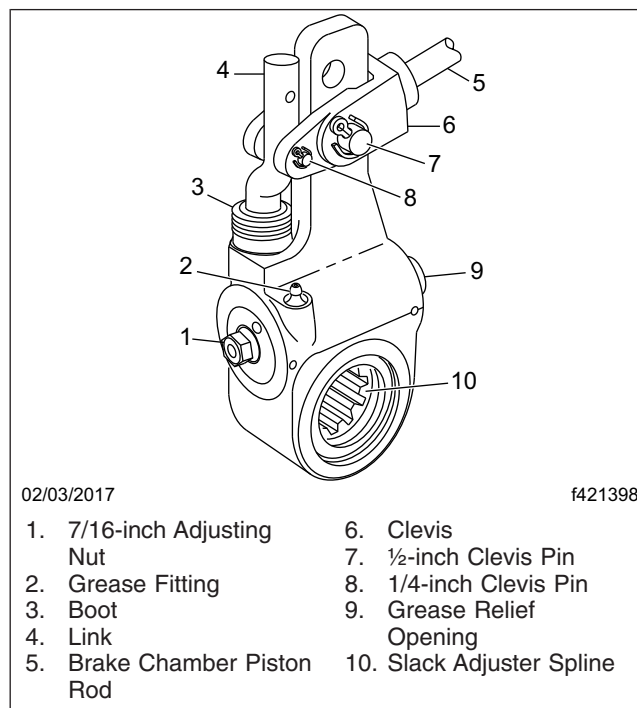
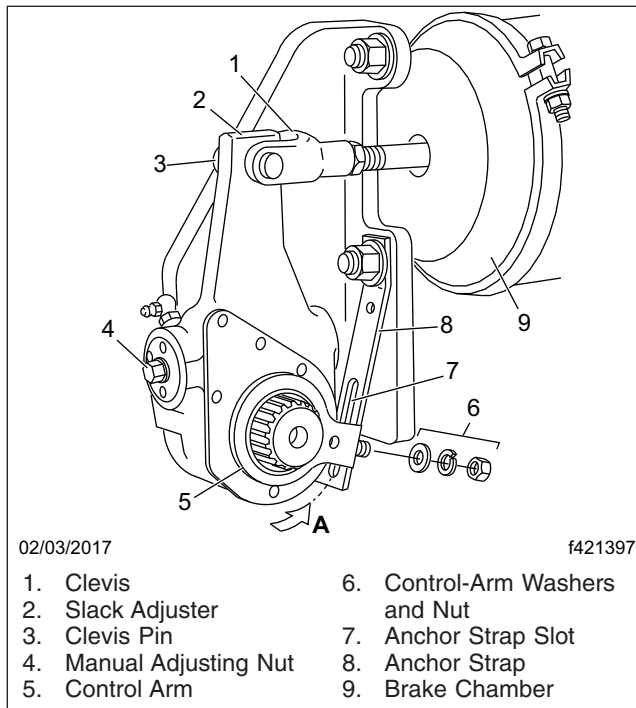
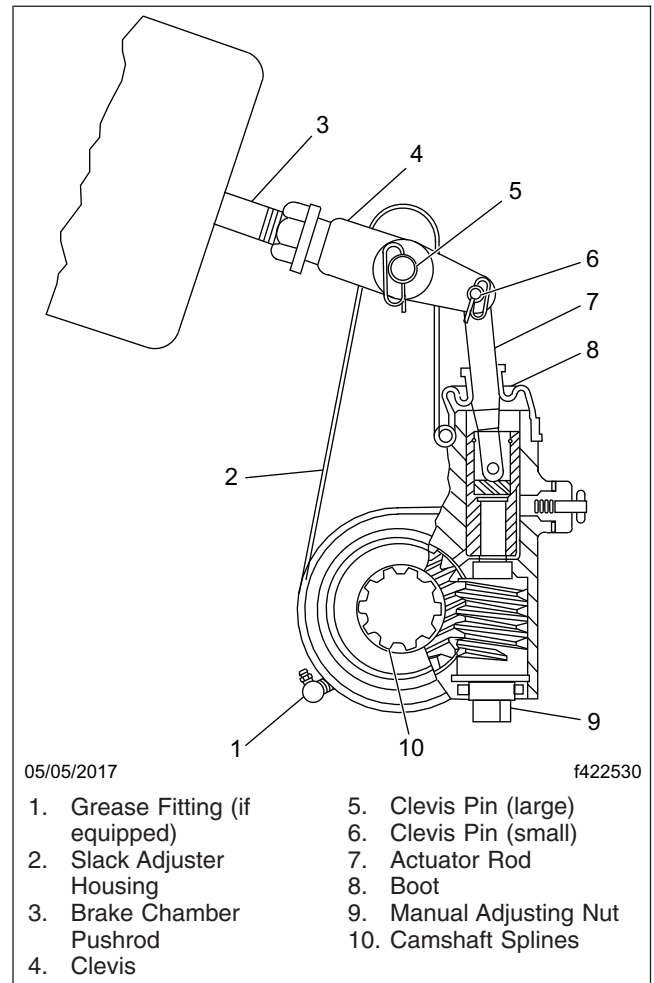

Fig. 22.1, Gunite Automatic Slack Adjuster
Fig. 22.2, Haldex Automatic Slack Adjuster
Fig. 22.3, Meritor Automatic Slack Adjuster
2. Inspect slack adjusters for signs of damage. See Fig. 22.1, Fig. 22.2, or Fig. 22.3.